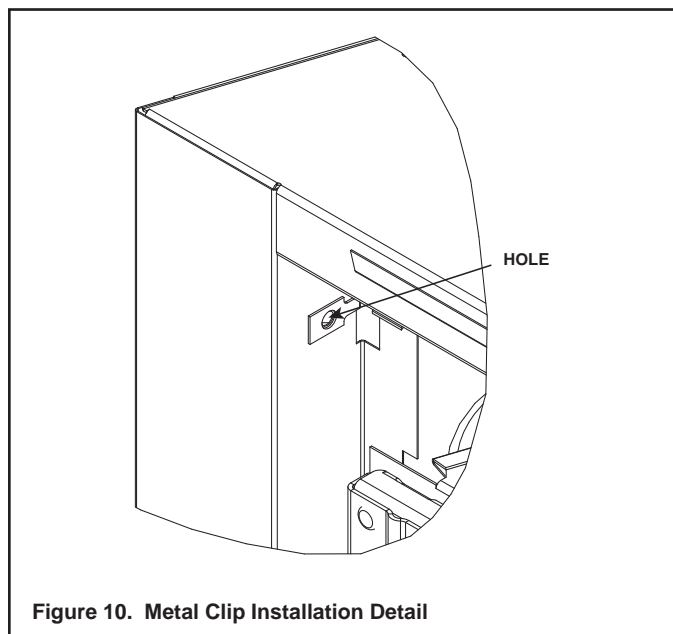

Figure 10. Metal Clip Installation Detail
4. Slide 4 metal clips into location on the left and right side of the fireplace opening. See figure 10 for locations. Clips are installed by sliding them into location from the back side of the fireplace surround. Hole in clip will line up with a pilot hole in the fireplace surround. See Figure 10.